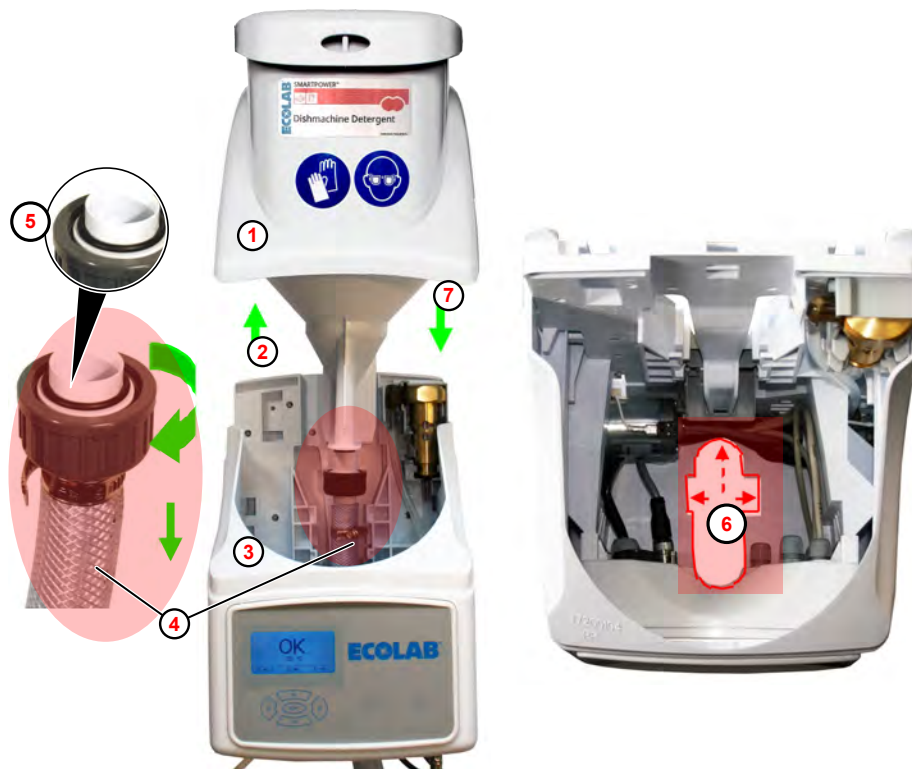

Fig. 14: Removing the funnel
1. ➤ Pull funnel ( Fig. 14 , ① ) upwards and out ② .
2. ➤ Pull the funnel together with the outlet hose ④ upwards out of the housing.
4. ➤ Clean the O-ring ⑤ by hand.
6. ➤ Keep all connecting lines in the housing away from the funnel shaft ⑥ .
7. ➤ Push the funnel back into the housing ③ from above ⑦ .
8. ➤ Screw the drain hose ④ back onto the funnel until hand-tight.